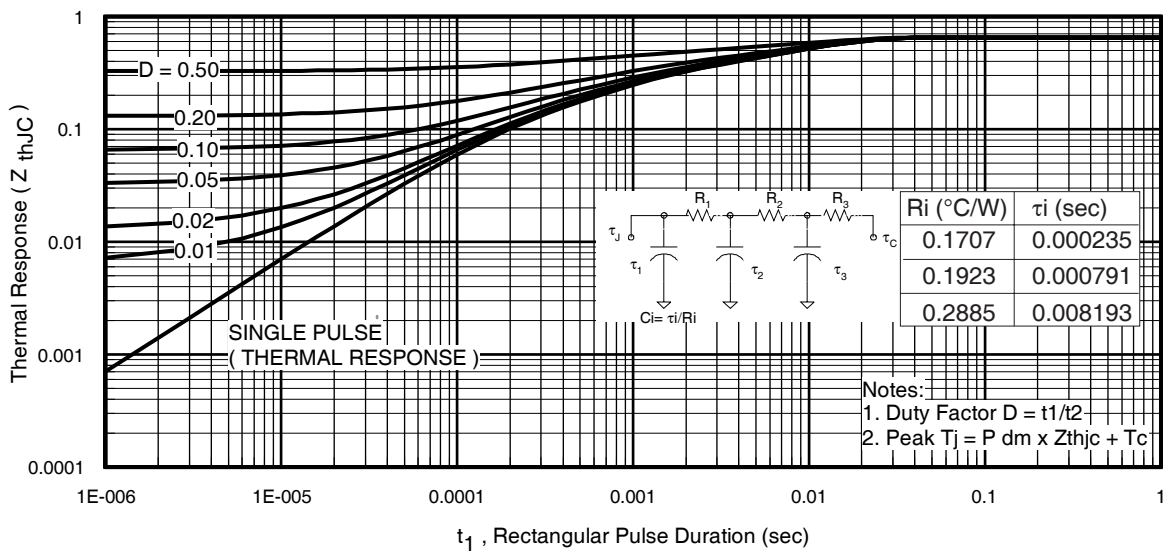

Fig 11. Maximum Effective Transient Thermal Impedance, Junction-to-Case
- ① Repetitive rating; pulse width limited by max. junction temperature. (See fig. 11).
- ② Limited by T_{Jmax} , starting $T_J = 25^\circ\text{C}$, $L = 0.064\text{mH}, R_G = 25\Omega, I_{AS} = 88A, V_{GS} = 10V$. Part not recommended for use above this value.
- ③ Pulse width $\leq 1.0\text{ms}$; duty cycle $\leq 2\%$.
- ④ $C_{oss \text{ eff.}}$ is a fixed capacitance that gives the same charging time as C_{oss} while V_{DS} is rising from 0 to 80% V_{DSS} .
$Z_{thJC}(D, t_{av})$ = Transient thermal resistance, see figure 11)